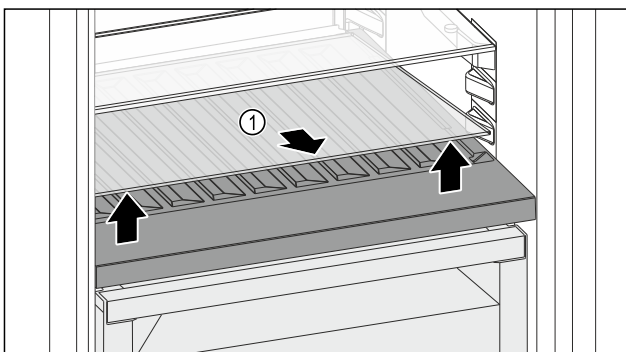

Fig. 157
- ▶ Lift the glass shelf Fig. 157 (1) in the front at the recess and pull it out.
- ▶ Store the glass shelf Fig. 157 (1) somewhere safe outside of the appliance.